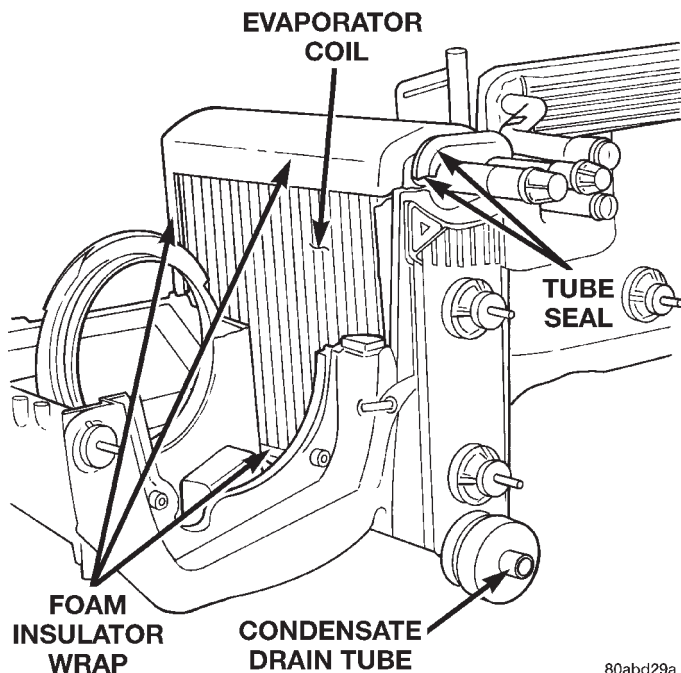

Fig. 55 Evaporator Coil Remove/Install
(1) Remove and disassemble the heater-A/C housing. See Heater-A/C Housing in this group for the procedures.
(2) Lift the evaporator coil unit out of the lower half of the heater-A/C housing (Fig. 55).